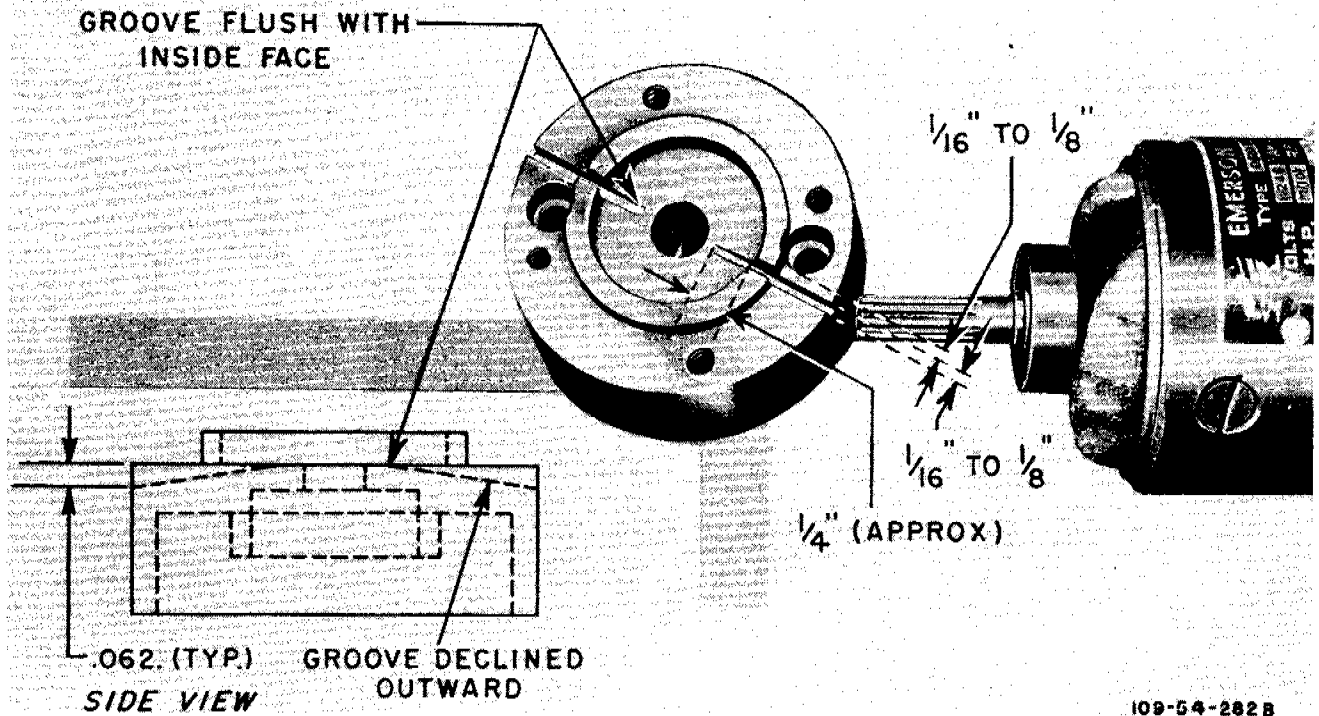

Figure 9 - Rework of Motor Pinion Cover
(6) Remove one of the motor housing through bolts, the two motor brushes, and inspect for evidence of grease in the motor interior. If any grease is found in the motor, and the motor pinion cover is not provided with vent slots as shown in figure 9, the motor must be disconnected from the control unit and modified in accordance with the following procedure.
(1) Pinion covers that have not been slotted for venting as shown in figure 9, will be reworked in accordance with the instructions contained therein. Be careful not to exceed the maximum depth of .062 inch.
(2) Clean the cover of all metal chips and reinstall the pinion cover.
(3) Check motor shaft for end play. Clearances should be .002 inch minimum, .005 inch maximum. End play can be varied by adding or reworking spacer washers.